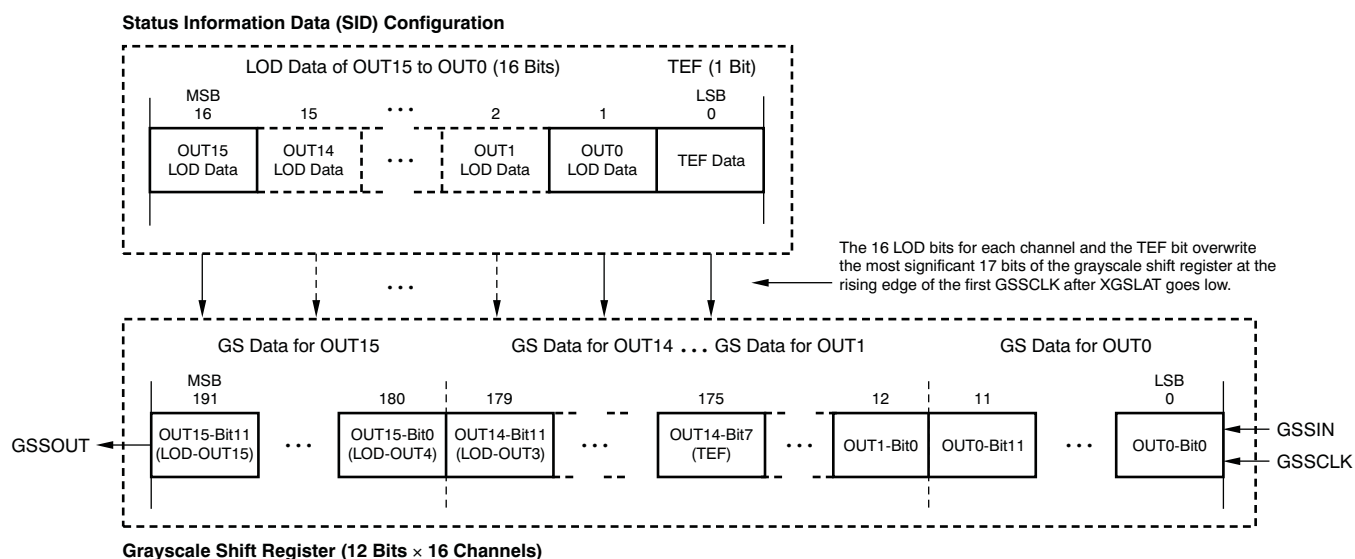

**Figure 23. Dot Correction Shift Register and Latch Configuration**
The Dot Correction (DC) Shift Registers and latches are each 112 bits in length and are used to individually adjust the constant current values for each constant current driver. Each channel can be adjusted from 0% to 100% of the maximum LED current with 7-bit resolution. Table 2 describes the percentage of the maximum current for each dot correction data. See Figure 23 for the Dot Correction Shift Register and data latch configuration. Figure 10 illustrates the timing chart for writing data into the DC Shift Registers and latches. Each channel LED current is dot-corrected by the percentage corresponding to the data in its DC data latch. DC data present on the DCSIN pin are clocked into the DC Shift Register with each rising edge of the DCCLK pin. Data are shifted in MSB first. The data are latched from the shift register into the DC data latch with a rising edge on the XDCLAT pin.